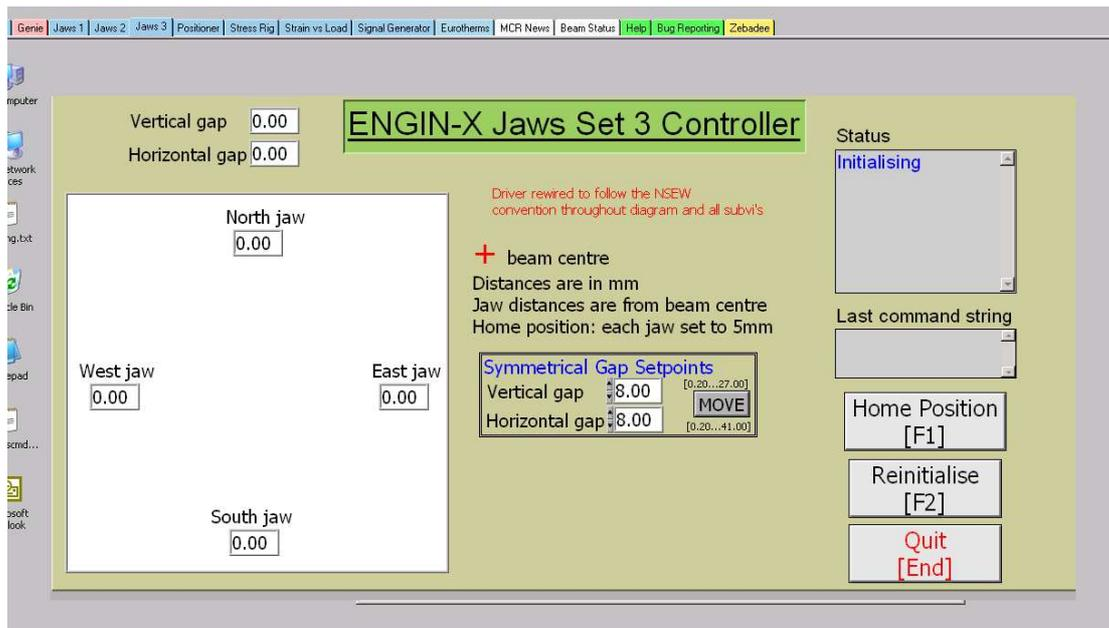

Figure 4: Jaws 3 VI.
1. On *Ray of Light*, click on the Jaws 3 tab (see Figure 4 below).
3. Wait for the Status (Figure 4, top right) to change from “Initialising” to “OK”.
4. In the “Symmetrical Gap Setpoints” box (Figure 4, centre), enter the required vertical and horizontal gaps (in mm) in the corresponding boxes.
5. Hit the MOVE button (Figure 4, centre).
7. Hit the Quit button (Figure 4, bottom right).
8. Check that the reported slit dimensions, (Figure 4, top left) are sufficiently close to the required setpoints. If not, wait for the VI to stop running, and repeat the procedure.